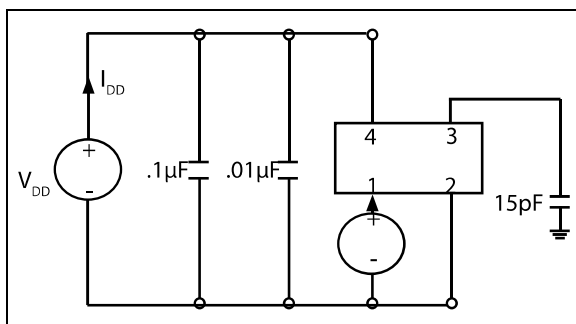

FIGURE 1-1: Test Circuit.
2: Parameters are tested with the test circuit shown in Figure 1-1. Add $((50 \text{ pF} - 15 \text{ pF}) \times V_{DD} \times f_{OUT} \text{ (in MHz)} \times 0.001)$ mA for the ±50 pF option
- 2:** Parameters are tested with the test circuit shown in Figure 1-1. Add $((50 \text{ pF} - 15 \text{ pF}) \times V_{DD} \times f_{OUT} \text{ (in MHz)} \times 0.001) \text{ mA}$ for the $\pm 50 \text{ pF}$ option
- 2:** Parameters are tested with the test circuit shown in Figure 1-1. Add $((50 \text{ pF} - 15 \text{ pF}) \times V_{DD} \times f_{OUT} \text{ (in MHz)} \times 0.001)$ mA for the ±50 pF option